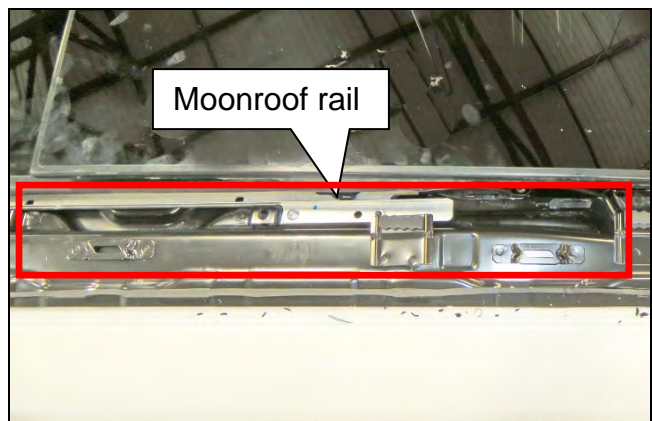

Figure 92
20. Remove any debris / anti-rattle clip material from the moonroof rail area, outlined in red in Figure 92.